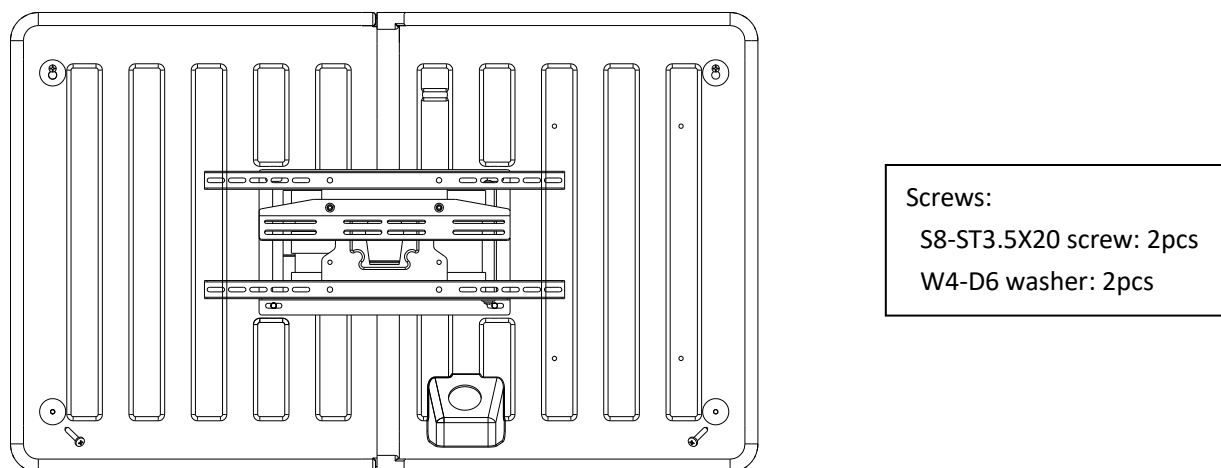

Figure 13
6. Secure the Storm Shell Back to the wall by installing two (2) S8 screws and two (2) W4 washers in the lower mounting holes (Figure 13). Tighten the S8 screws in the upper left and right keyholes.